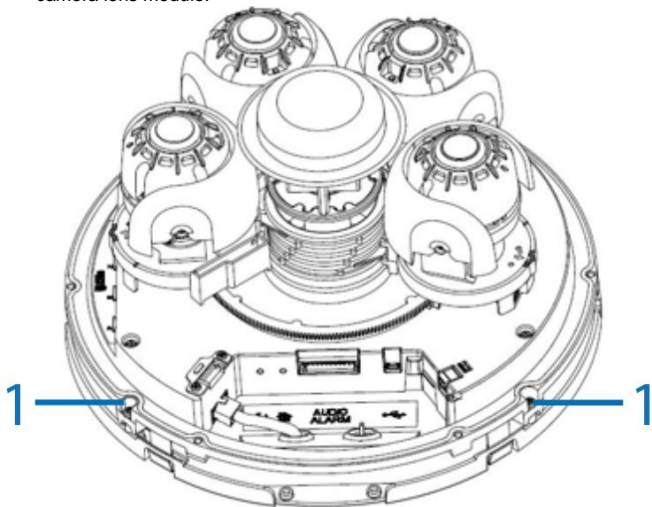

Figure 4
2. Use the T20 Torx wrench to remove the two screws (1) (Figure 4) on the camera lens module and remove the mounting plate (3) (Figure 1) from the camera lens module.